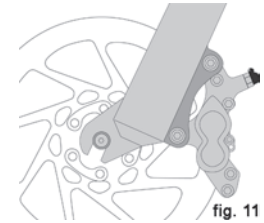
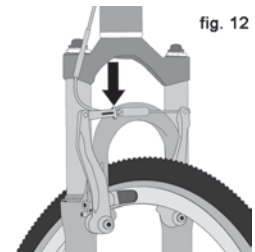

fig. 11
fig. 12
- (1) If your bike has rim brakes, disengage the brake's quick-release mechanism to increase the clearance between the tire and the brake pads (See Section 4.C fig. 11 through 15).
(2) If your bike has rim brakes, disengage the brake's quick-release mechanism to increase the clearance between the wheel rim and the brake pads (see Section 4.C, figs. 11 through 15).
(3) On a derailleur gear system, pull the derailleur body back with your right hand.
- 3. Some bicycle brakes, such as disc brakes (fig. 11) and linear-pull brakes (fig. 12), are extremely powerful. Take extra care in becoming familiar with these brakes and exercise particular care when using them.**
Most rim brakes have some form of quick-release mechanism to allow the brake pads to clear the tire when a wheel is removed or reinstalled. When the brake quick release is in the open position, the brakes are inoperative. Ask your dealer to make sure that you understand the way the brake quick release works on your bike (see figs. 12, 13, 14 & 15) and check each time to make sure both brakes work correctly before you get on the bike.